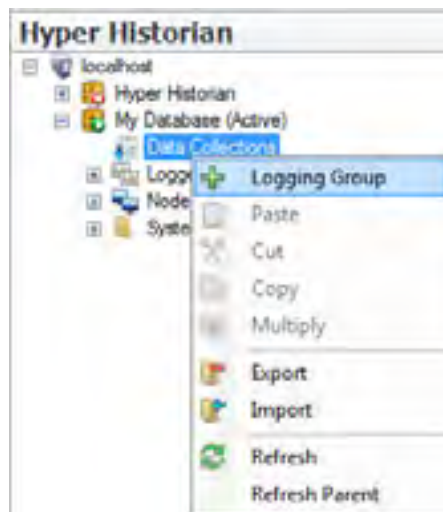

Figure L3.1 - Adding Logging Group
2. Right-click the **Data Collections** node in the Project Explorer and select **Logging Group**, as shown in Figure L3.1.